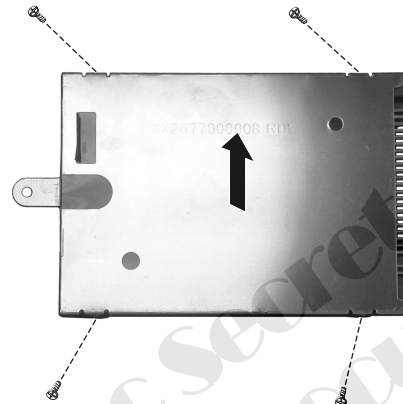

Figure 2-9 Remove hard disk drive
4. Remove the four screws to separate the hard disk drive from the bracket, remove the hard disk drive. (Figure 2-9)